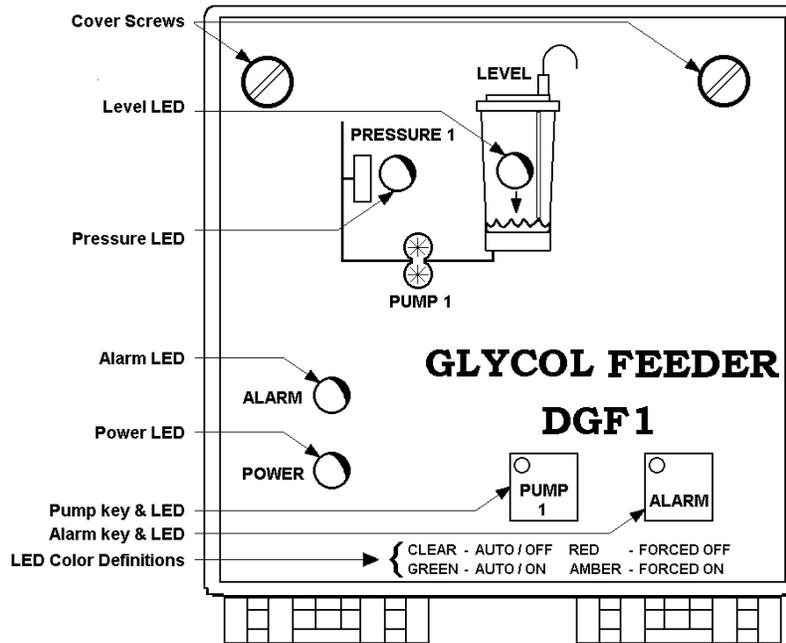

Figure 20 – User Interface
The User Interface is shown below (Figure 20).
- a) If the LED is RED, adjust the Pressure Switch Range Adjustment Screw (refer to *Figure 22*) counter-clockwise until the Pressure LED goes out (refer to *Figure 20*).